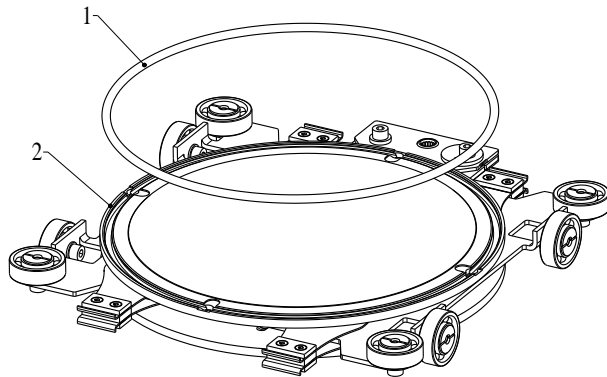

Figure 7-4
2. Remove gate seal (1) from groove; see «Figure 7-4», use O-ring removal tool.